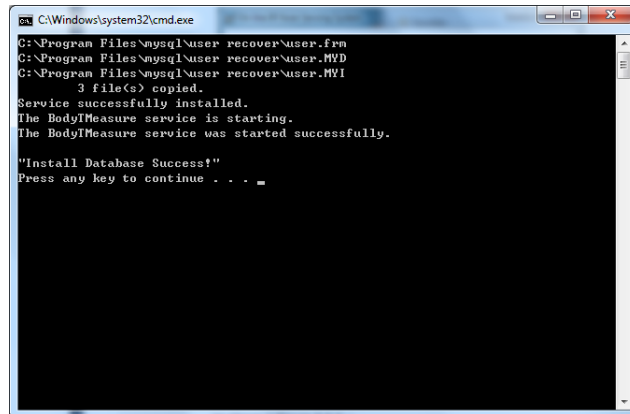

Fig. 3.2.2 Database installation tip
- After the installation database is finished, Fig. 3.2.2 will pop up, indicating successful installation, otherwise the installation is failure.